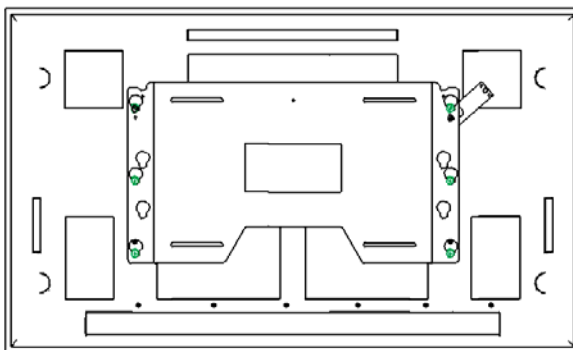

Figure 6
4. With the aid of another person, lift the display up to the mount, aligning mounting buttons with the teardrop slots and setting into place (see Figure 6).